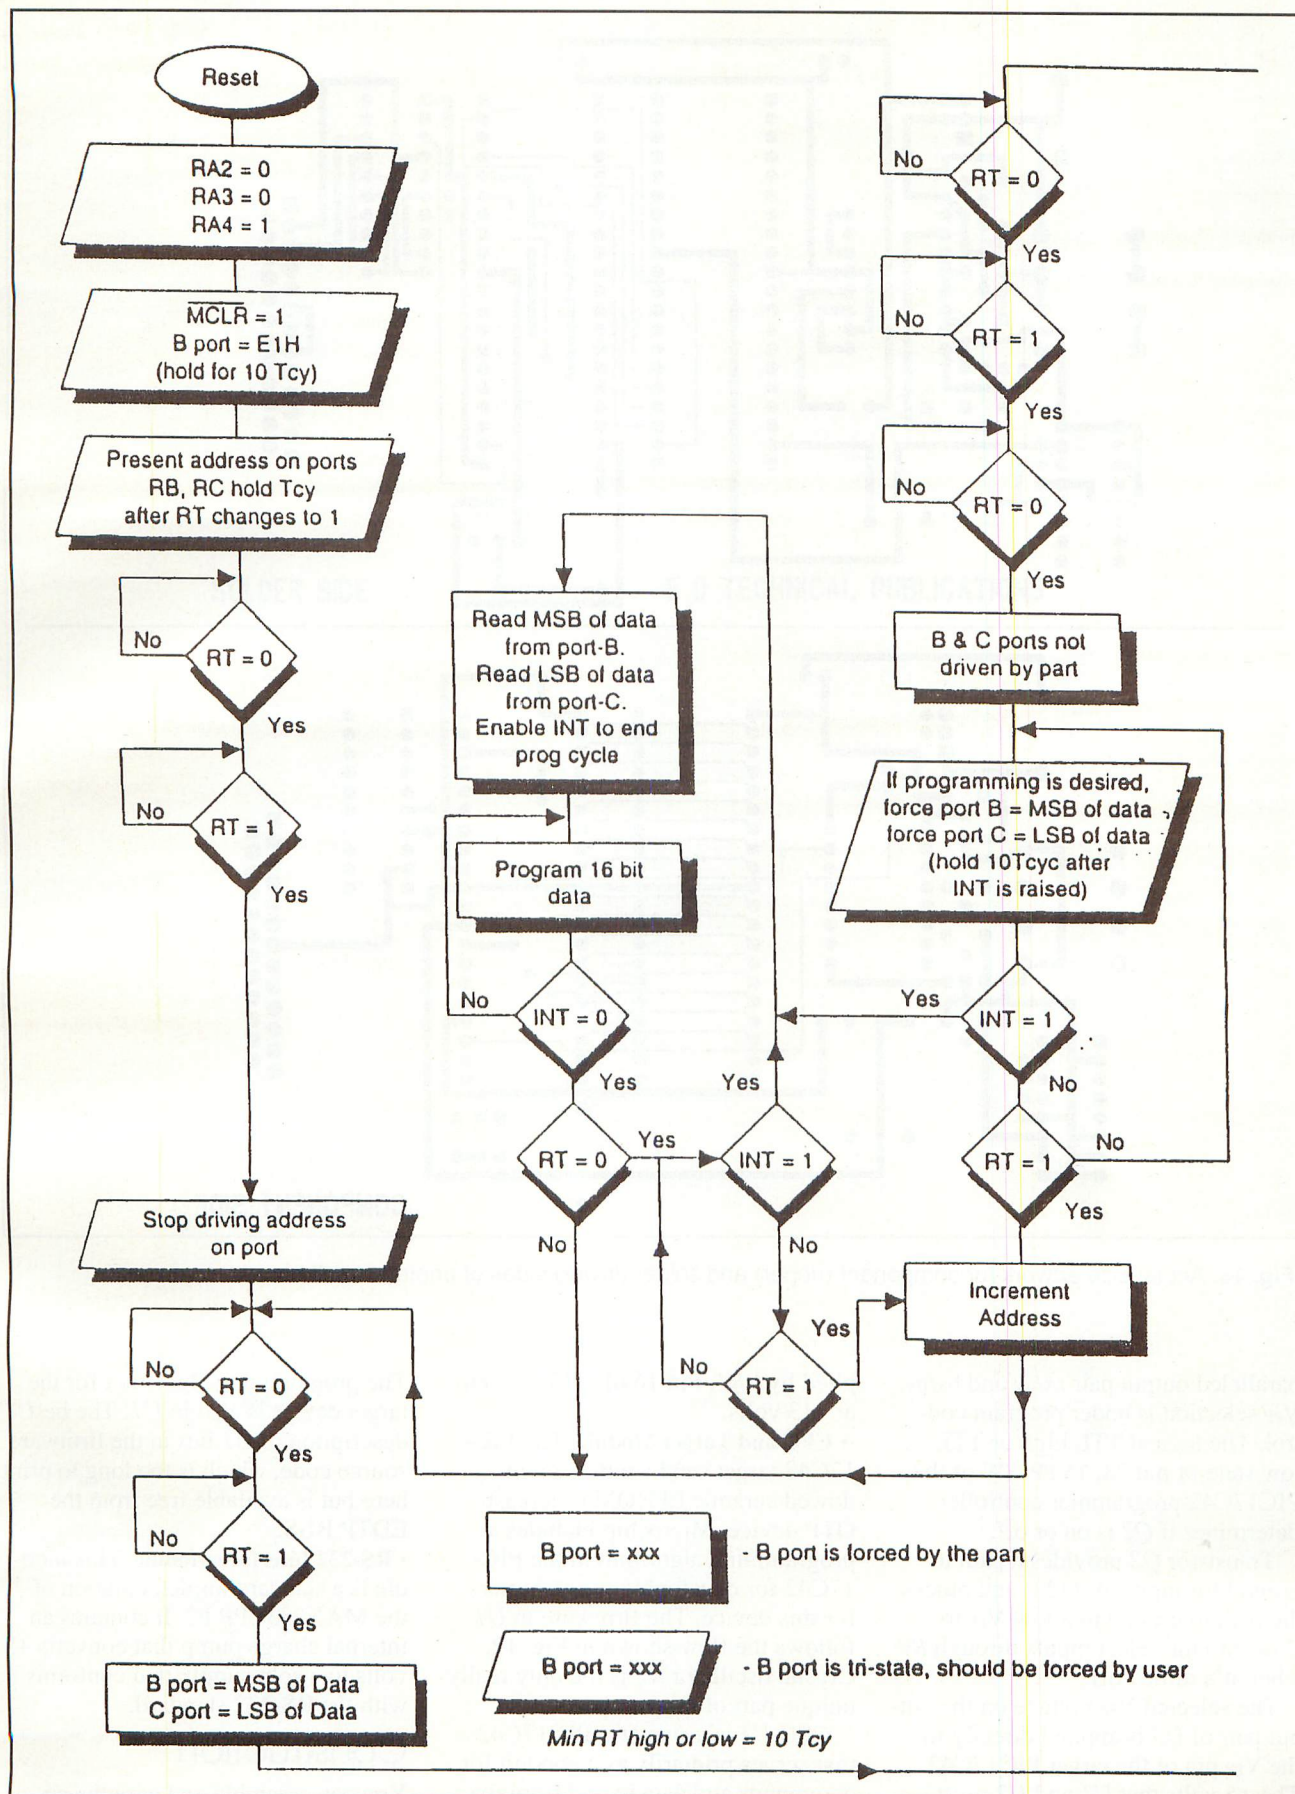

Fig. 12. Programming routine flowchart for PIC17C42 microcontroller. (Courtesy Microchip Technology Inc.)
- **CPU and Target Module.** The PIC-17C42 target can be either a windowed ceramic EPROM or a plastic OTP device. Microchip includes a programming algorithm in the PIC-17C42 for developing programmers for this device. The firmware in U1 follows the flow shown in Fig. 12. Crystal oscillator X2 is the only really unique part of this module.